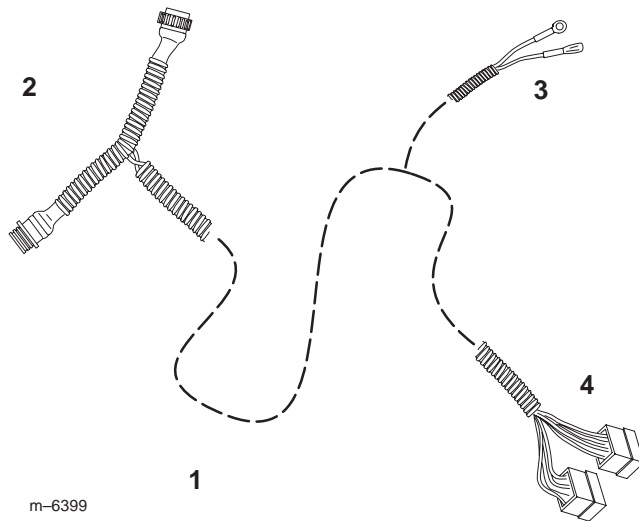

Figure 21
- 10.** Connect the middle lead with the spade connector to the open lead on the fuse box under the driver's seat (Fig. 21 and 24).